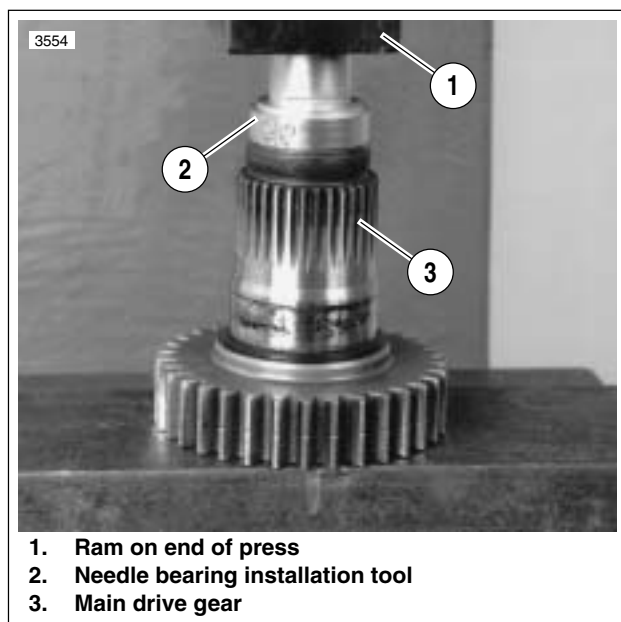

Figure 6-73. Needle Bearing Installation Tool
1. See Figure 6-73. Use INNER/OUTER MAIN DRIVE GEAR NEEDLE BEARING INSTALLATION TOOL (Part No. HD-37842-A) for assembly. Select which end of tool to use.